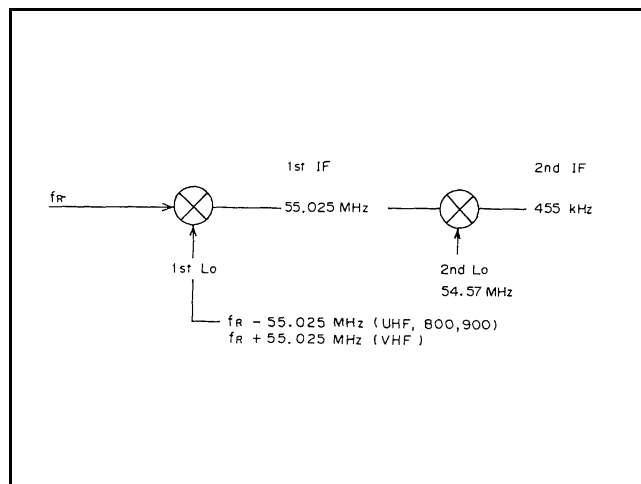
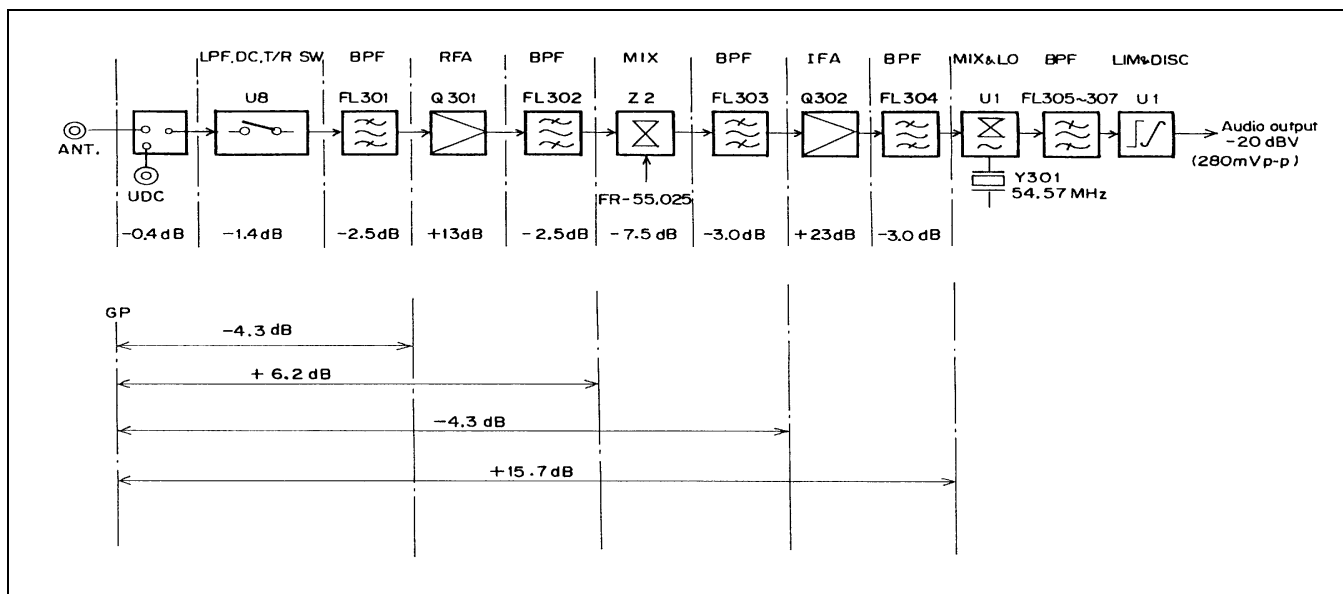

Figure 7 - Frequency Relationship Diagram
Figure 8 - Typical Level Diagram
- a. Level Diagram: A Frequency Relationship Diagram is shown in Figure 7 and a Typical Level Diagram is shown in Figure 8.
- (1) C318 is provided for the adjustment of the second local oscillator.
- (2) When the desired channel frequency with standard modulation is applied to the antenna terminal, adjust C323 for maximum output at RX Audio.
- a. Check the Local Oscillator Frequency. Check the frequency after connecting a frequency counter through a 1 PF capacitor to the collector of Q103. The frequency relation at various stages is shown In Figure 8. If a frequency error is 1.5 PPM or more in the temperature range of 20° to 25°C, adjust the frequency of VCTCXO (Z1). The frequency of VCTCXO is 13.2 MHz.